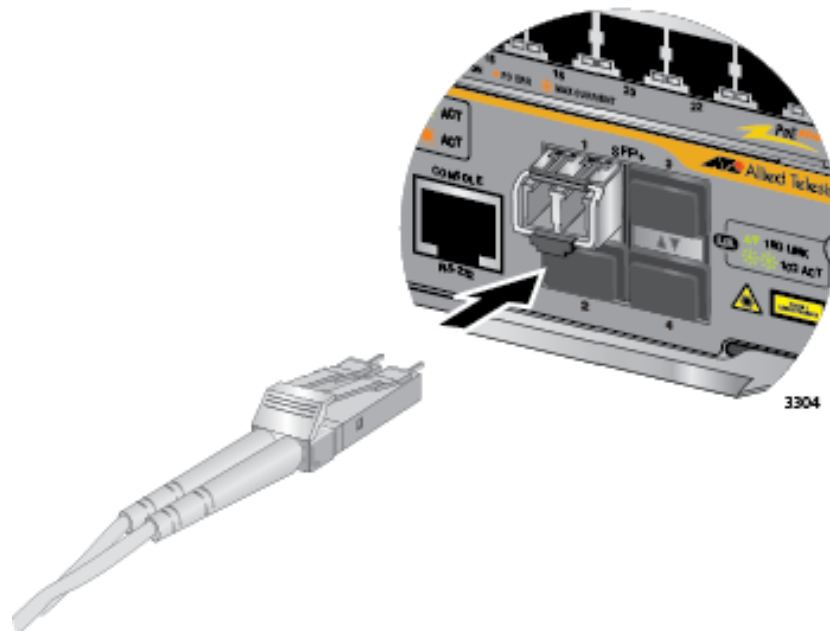

Figure 113. Attaching a Fiber Optic Cable to an SFP+ Transceiver in the AT-SBx81CFC960 Controller Fabric Card
6. Connect the fiber optic cable to the port on the transceiver, as shown in Figure 113 on page 186. The connector should snap into the port.